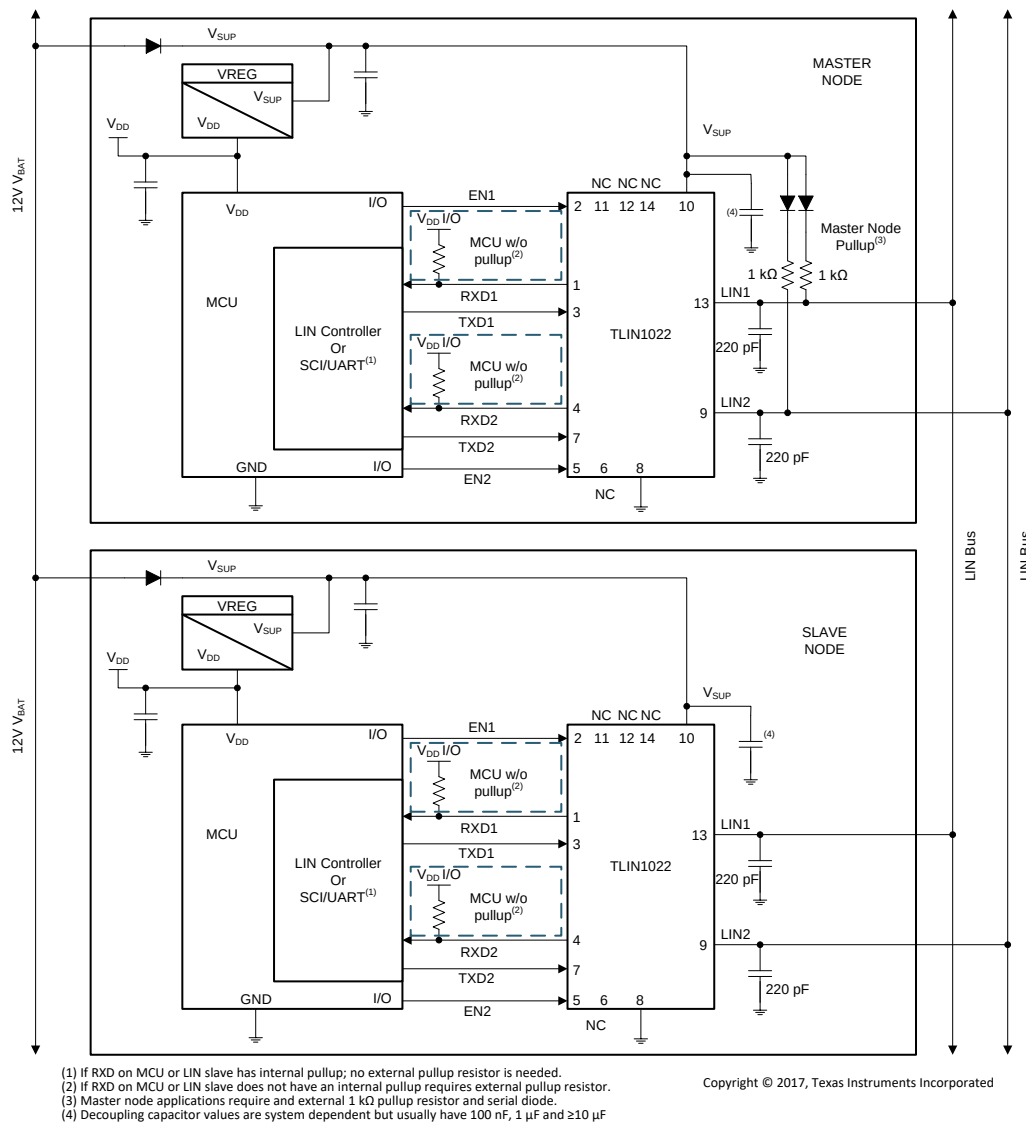

图 30. Typical LIN Bus
The device comes with an integrated 45 kΩ pull-up resistor and series diode for slave applications. For master applications, an external 1 kΩ pull-up resistor with series blocking diode can be used. 图 30 shows the device being used in both master and slave applications.
- **Pin 6 (NC):** Not Connected.
- **Pin 9, 13 (LIN1/2):** This pin connects to the LIN bus. For slave applications, a 220 pF capacitor to ground is implemented. For maser applications and additional series resistor, a blocking diode should be placed between the LIN pin and the V_{SUP} pin. See 图 30.
- **Pin 11, 12 and 14 (NC):** Not Connected.